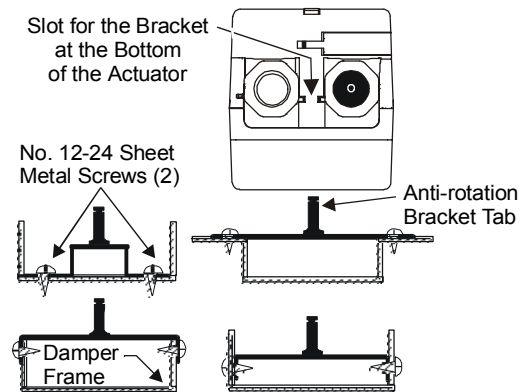

Figure 4: Anti-rotation Bracket Positions
1. Bend or cut the anti-rotation bracket to fit the damper frame or duct as shown in Figure 4. (The bracket can be bent to fit a round damper.)
3. Position the anti-rotation bracket into the slot at the bottom of the actuator. (See Figure 4.)